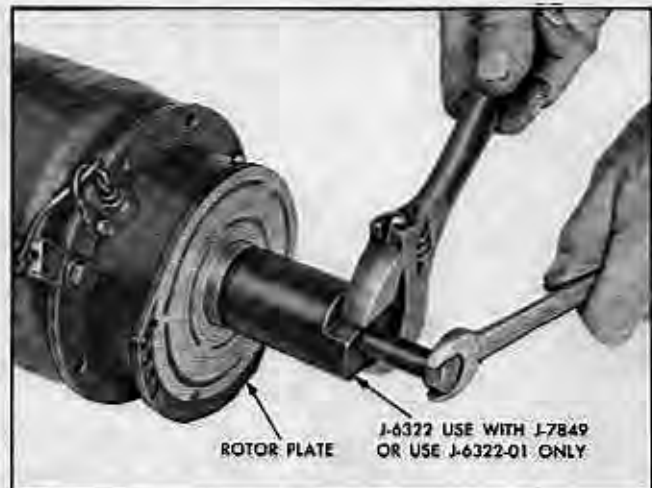

Fig. 6-61 Removing Rotor Plate
- b. Holding the body of the tool with an open end wrench, tighten the screw against the compressor shaft to remove the rotor plate (Fig. 6-61).